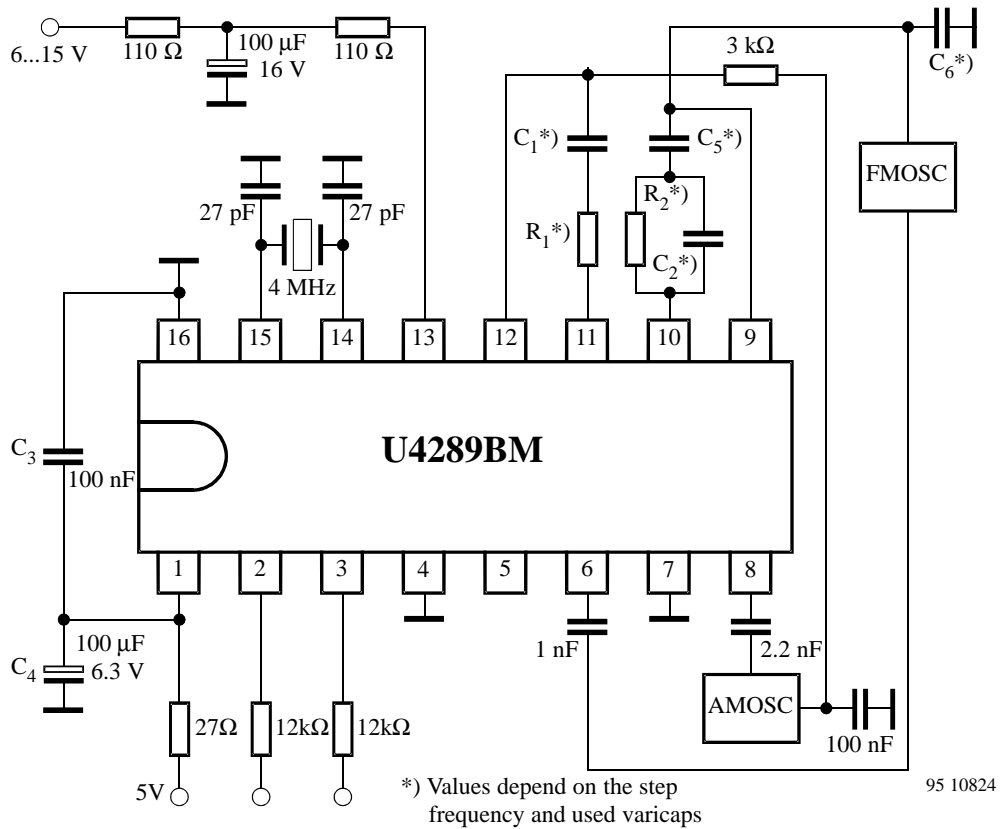

Figure 8. Application circuit
- GND 2 (Pin 7 – analog ground) and GND 1 (Pin 16 – digital ground) must be connected according to figure 8